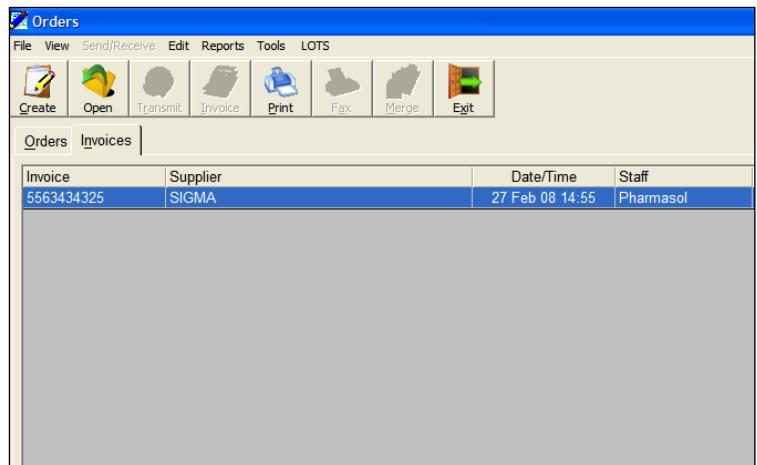

Figure 303
- Select the Invoice by highlighting it and select the 'Open' button (as shown in Figure 303).